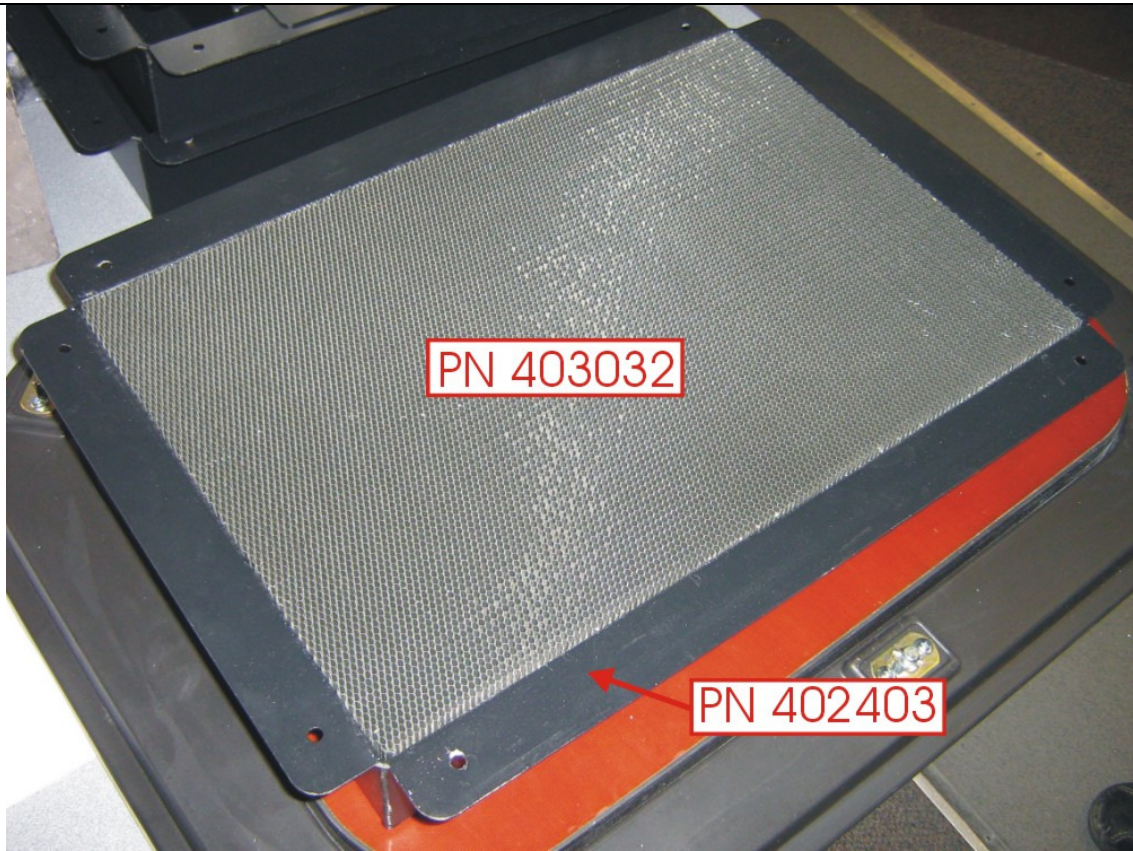

Figure 1: Honeycomb assembly.
4. Place aluminum honeycomb (PN 403032) in aluminum enclosure (PN 402403) if not already done. See Figure 1.